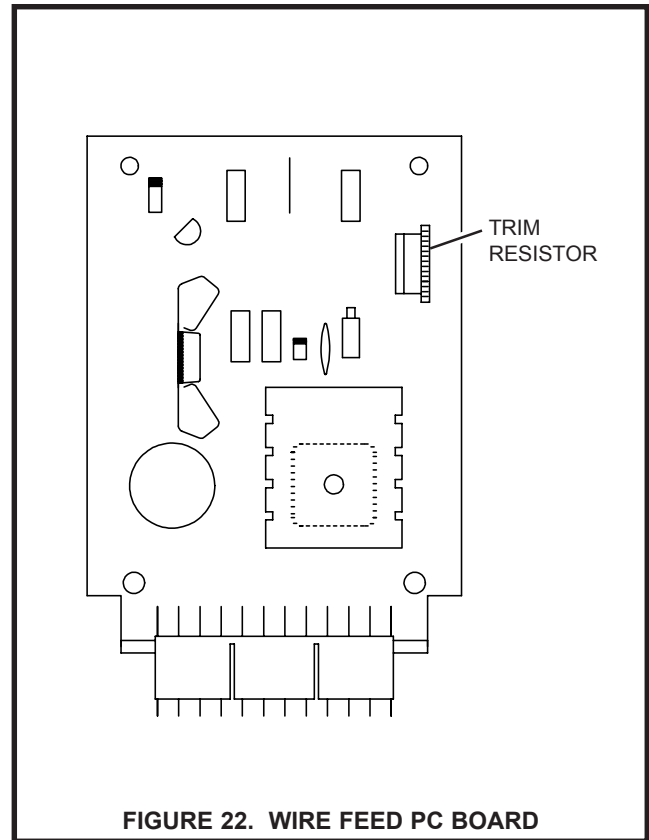

FIGURE 22. WIRE FEED PC BOARD
3. Referring to Figure 22, locate the trim resistor, this is located in the upper right hand corner of the wire feed PC board.